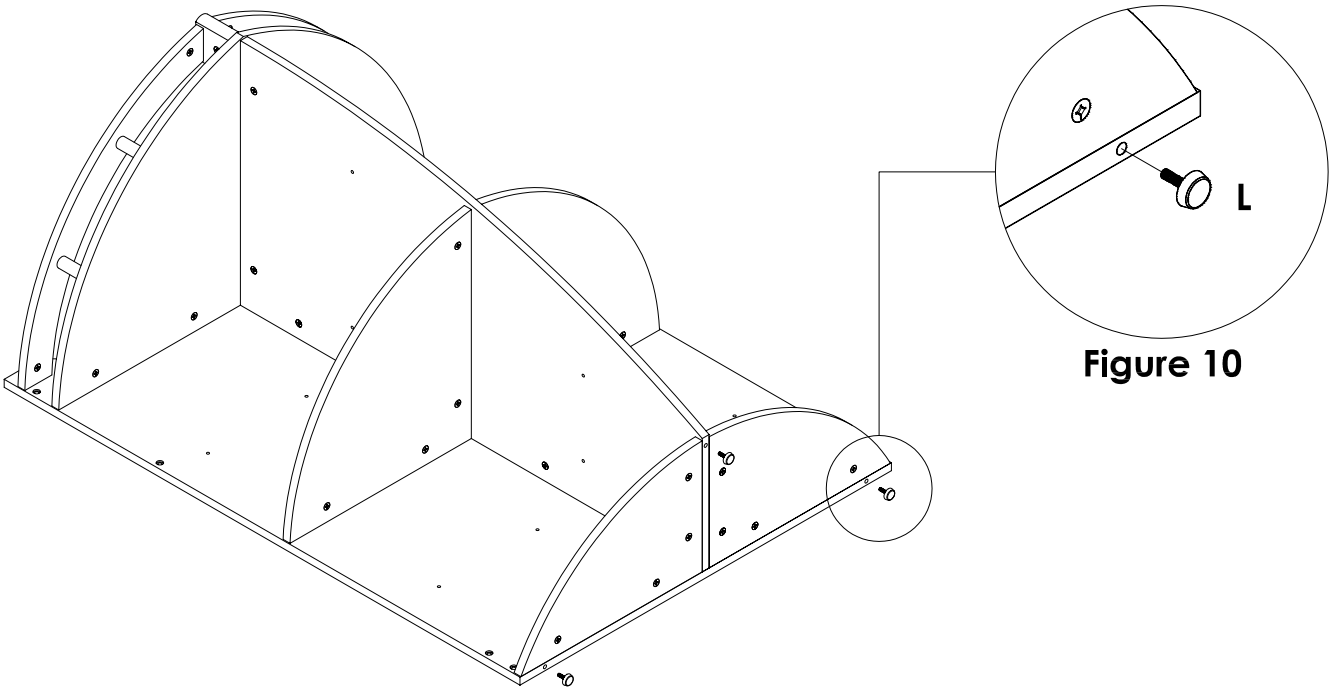

Figure 10
1. Attach **Base Glider (L)** into specified holes at the foot of **Footboard Panel** & **Center Panel** as shown in **Figure 10**.